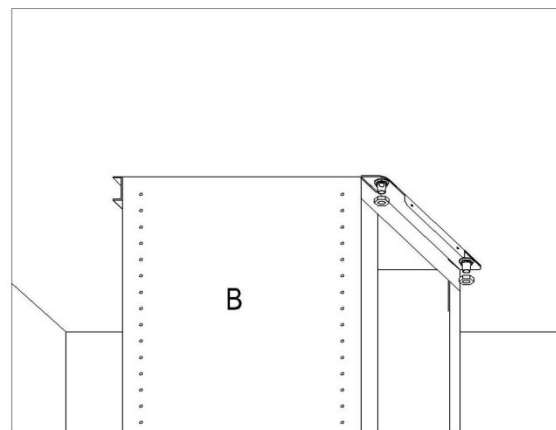

Fig.3
- Take the upper part of the structure **B** and insert the 3 slots onto the 3 screws that are not completely tightened. (Fig3)